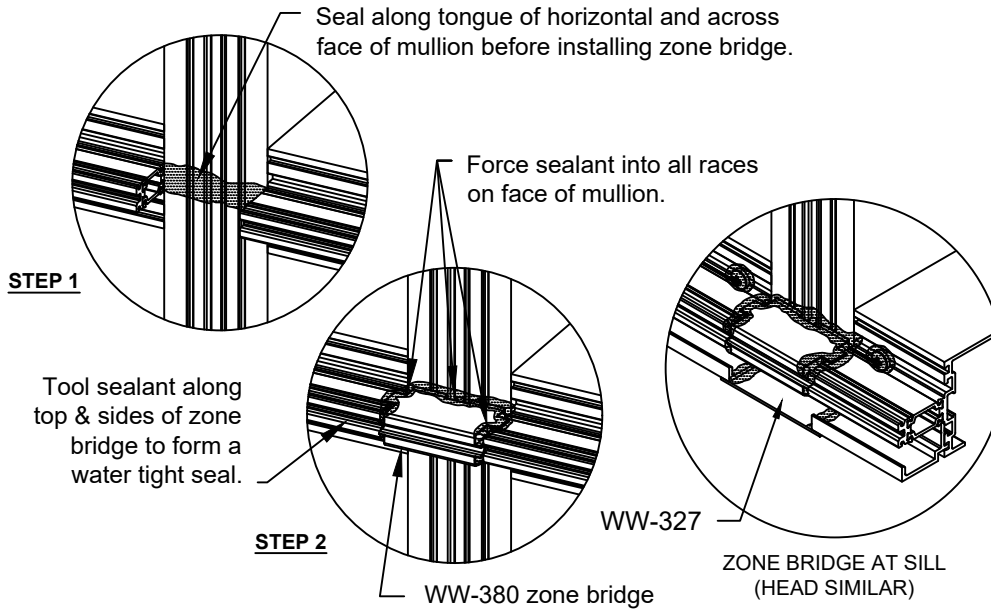

FIGURE 28
- 3.18 WW-380 bridge is required at SSG mullion to horizontal connections. Apply sealant along face of mullion as shown in step 1, slide bridge over horizontal tongue and apply additional sealant along horizontal and mullion. The WW-380 bridge has two sealant tracks along each side. Force sealant into these tracks to seal ends of thermal struts. **SEE FIGURE 28.**